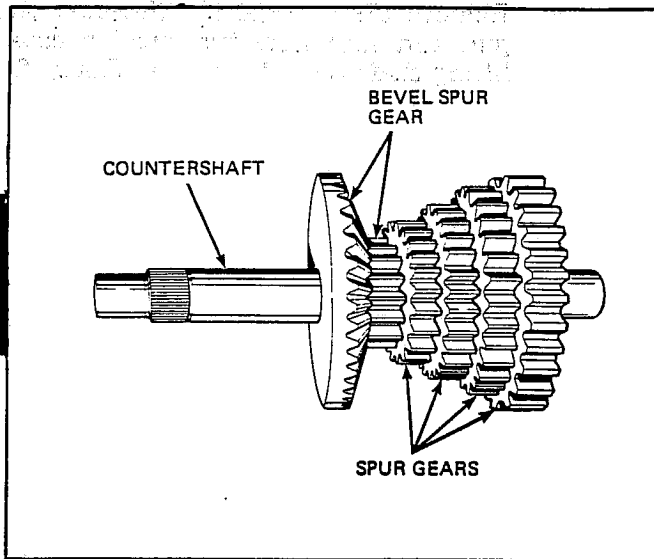

Figure 2-46
7. Remove bevel spur gear combination and spur gears from the countershaft these gears are splined to the countershaft. See Figure 2-46.